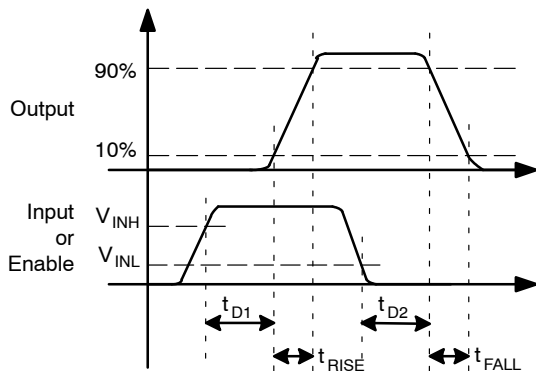
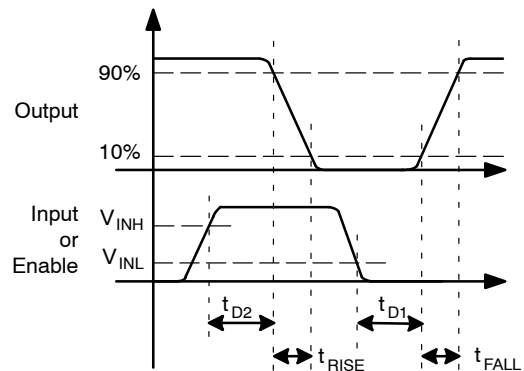

Figure 4. Non-Inverting
Figure 5. Inverting
10. See the Timing Diagrams of Figure 4 and Figure 5.